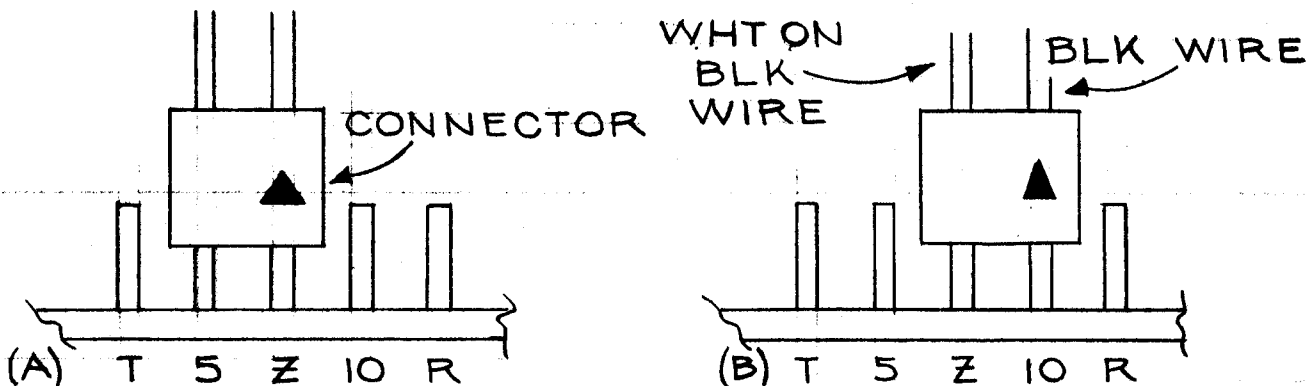

Fig. 2. Partial view of Staircase board (670-1347-00) showing (A) 5 step connection and (B) 10 step connection.
Selection of 5 step (factory connected) or 10 step is determined by the positioning of a two (2) connector holder (jumper) on the staircase circuit board. Refer to Fig. 2 for positions used in selecting 5 or 10 step staircase.
3. Change the positioning of the 2 connector holder (see Fig. 2 of this insert) to the 10 step position.